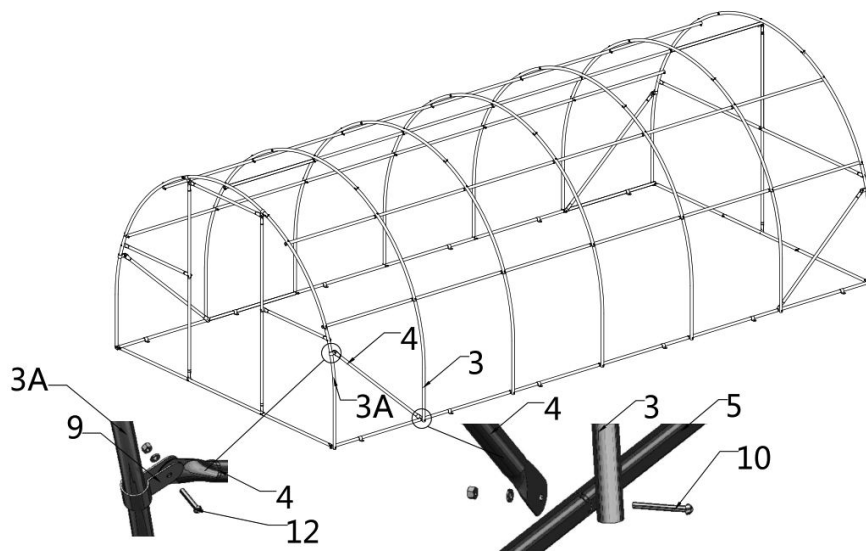

Figure 8
- Connect diagonal bracing bar (#4) on the first and last span between the Lower rafter tube (#3A) and (#3) with tube clamp (#9), use bolt (#12) and (#10) (Figure 8)
- (4) Diagonal bracing bar (#4)